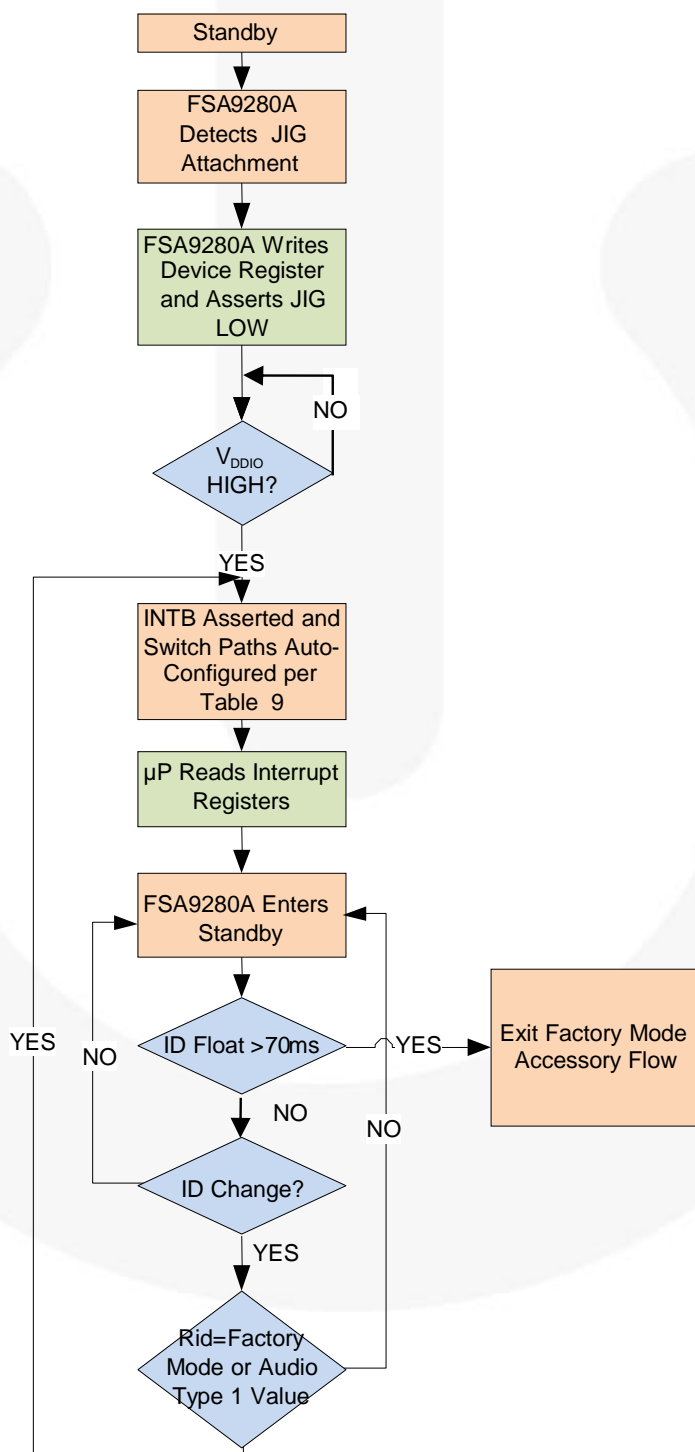

Figure 24. Factory Mode Flow
- 26. Audio-type device configuration is entered as part of the factory-mode flow shown in Figure 24 where the ID_CON pin is not monitored for key presses and JIG remains LOW until the factory jig box is detached from the phone. MIC is not connected in this audio type case. Figure 24 provides the attach flow diagram for the JIG box accessory. If any of the factory modes is first entered and JIG=LOW; then and only then, can the ID_CON resistor (1M Ω) dynamically switch to Audio Type 1 accessory without a cable detach. For the latter case, factory-mode Audio Type 1 accessory auto-configures the switches such that: Audio_L = DM_CON.